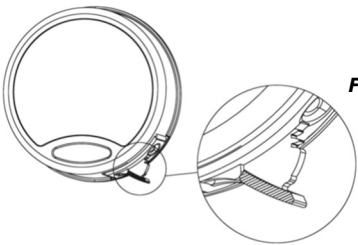

Fig. 2
- 2) Pull out the battery compartment. See Fig. 2.